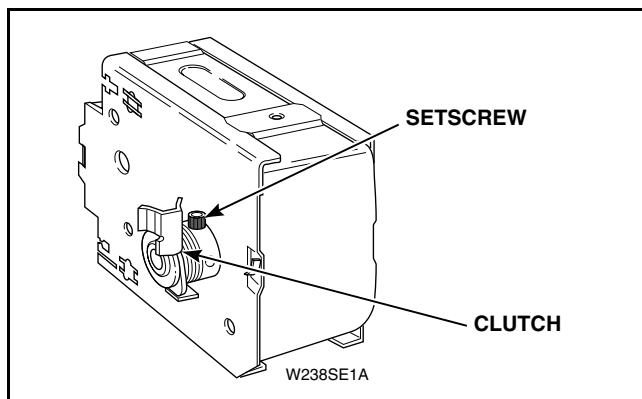

Figure 11
- (7) Loosen setscrew holding clutch to timer shaft. Refer to *Figure 11*.
- (1) Place clutch on timer shaft and tighten setscrew. Refer to *Figure 11*.